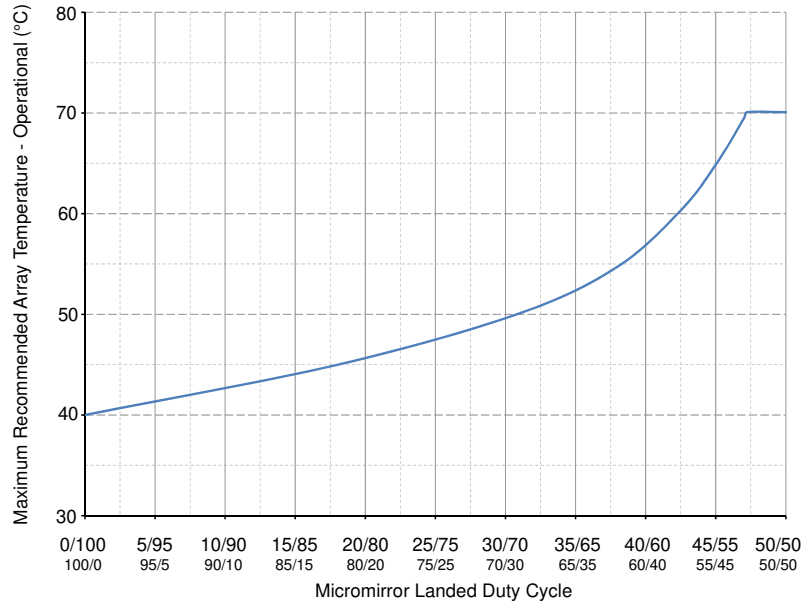
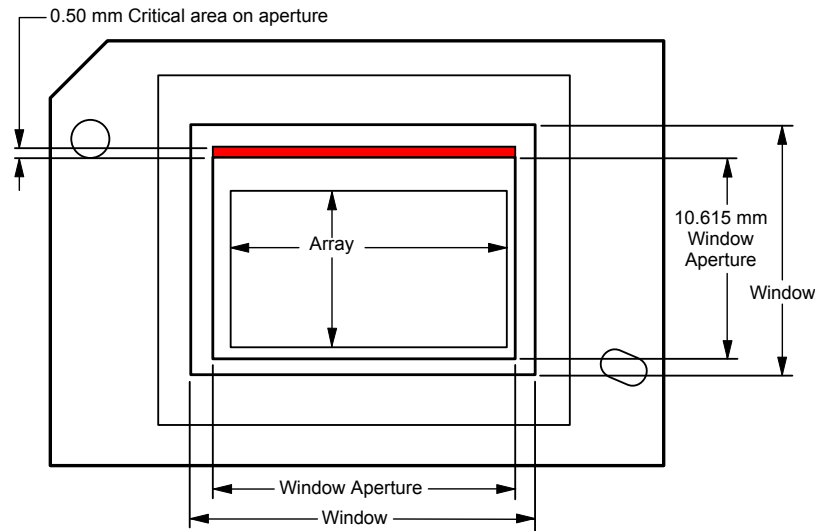

Figure 6-1. Maximum Recommended Array Temperature - Derating Curve
Figure 6-2. Illumination Overfill Diagram - Critical Area
- (12) Per Figure 6-1, the maximum operational array temperature should be de-rated based on the micromirror landed duty cycle that the DMD experiences in the end application. Refer to Micromirror Landed Duty Cycle for a definition of micromirror landed duty cycle.
- (13) Long-term is defined as the usable life of the device.
- (14) Short-term is the total cumulative time over the useful life of the device.
- (15) The average over time (including storage and operating) that the device is not in the elevated dew point temperature range.
- (16) Exposure to dew point temperatures in the elevated range during storage and operation should be limited to less than a total cumulative time of CT_{ELR}.
- (17) The active area of the DMD is surrounded by an aperture on the inside of the DMD window surface that masks structures of the DMD device assembly from normal view. The aperture is sized to anticipate several optical conditions. Overfill light illuminating the area outside the active array can scatter and create adverse effects to the performance of an end application using the DMD. The illumination optical system should be designed to minimize light flux incident outside the active array. Depending on the particular system's optical architecture and assembly tolerances, the amount of overfill light on the outside of the active array may cause system performance degradation.
- (18) Applies to the region in red in Figure 6-2.